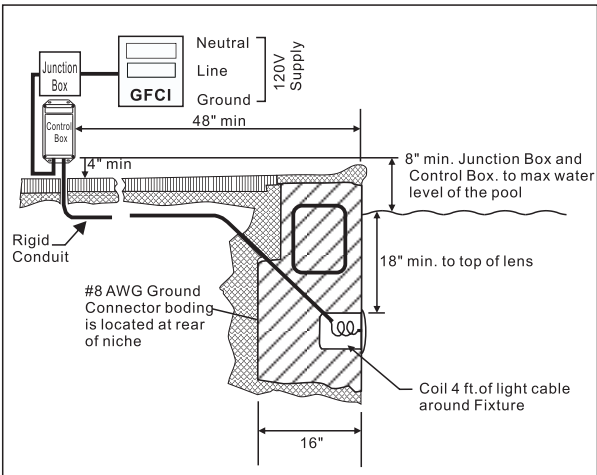
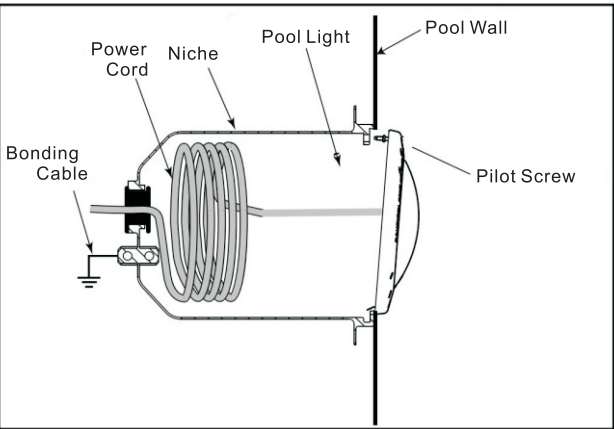

Figure 1
Figure 3
2. The junction box (or, for 12 volt models, the low voltage transformer) must be located at least eight (8) inches above water level, at least four (4) inches above ground level, and at least four (4) feet from the edge of the pool. See Figure 1.
3. The light fxture and all metal items within fve (5) feet of the pool must be properly electrically bonded to a reliable point of grounding.
4. The wet niche must be properly installed so that the top edge of the underwater light's lens is at least 18 inches below the surface of the water in the pool. See Figure 1.
5. The wet niche must be properly electrically bonded and grounded via the No. 8 AWG ground connector located at the rear of the niche. See Figure 1.
1. Feed cord through conduit to junction box, leaving at least four (4) feet of cord at the light fixture to coil into the base of the light niche, see Figure 1. The four (4) feet of cord allows the light to be serviced after the pool is filled with water.
2. Cut the cord at the junction box, leaving at least six (6) inches of cord to make connections.
6. Engage the retainer tab on the bottom of light back, then pivot the top of the fixture inward and tighten the special pilot screw. See Figure 3
4. Feed cord through conduit to junction box, leaving at least four (4) feet of cord at the light fixture to coil into the base of the light niche, see Figure 1. The four (4) feet of cord allows the light to be serviced after the pool is filled with water.
5. Cut the cord at the junction box, leaving at least six (6) inches of cord to make connections.
9. Engage the retainer tab on the bottom of light back, then pivot the top of the fixture inward and tighten the special pilot screw. See Figure 3